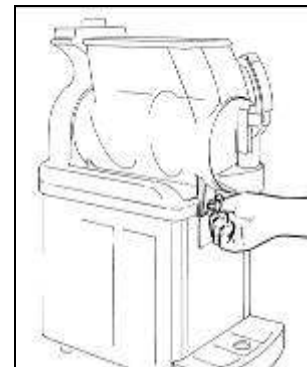

Fig. 24
- Fix the bowl by reinsert the knobs (fig.24).